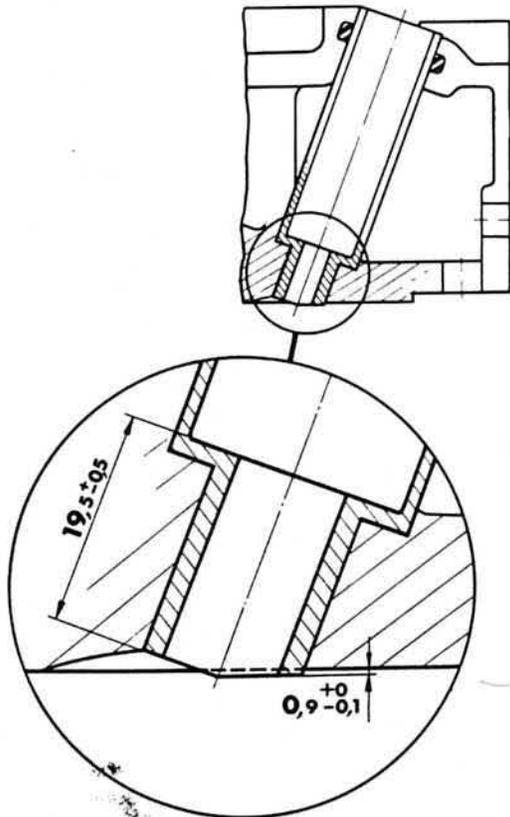

Fig. 10 Adjusting the sleeve
6. Then adjust the length of the sleeve as shown in Fig 10.